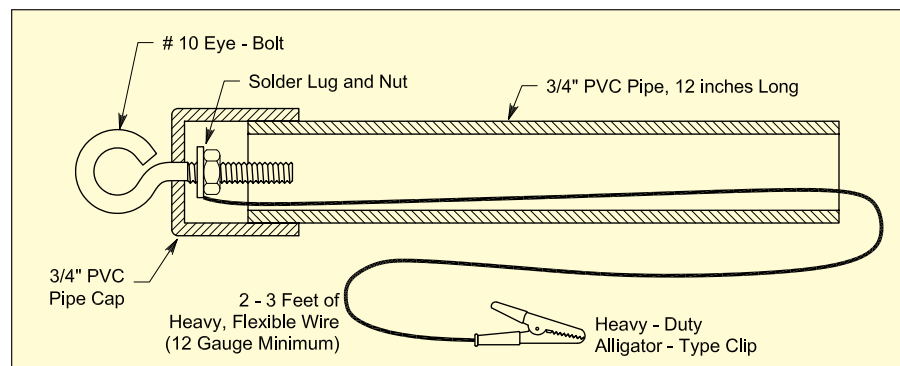

Figure 1—The "chicken stick" is a great way to ensure that everything inside the amplifier that should be discharged actually is. It can be a life saver.
- **A Chicken Stick**—Make this simple safety accessory shown in Figure 1 and use it whenever you work on equipment in which hazardous voltages have been present. The ground wire should be heavy duty (12 gauge minimum) due to the high peak currents (hundreds of amperes) present when discharging a capacitor or tripping a circuit breaker. When equipment is opened, touch the tip of the stick to *every* exposed component and connection that you might come in contact with. Assume nothing—accidental shorts and component failures can put voltage in places it shouldn't be.